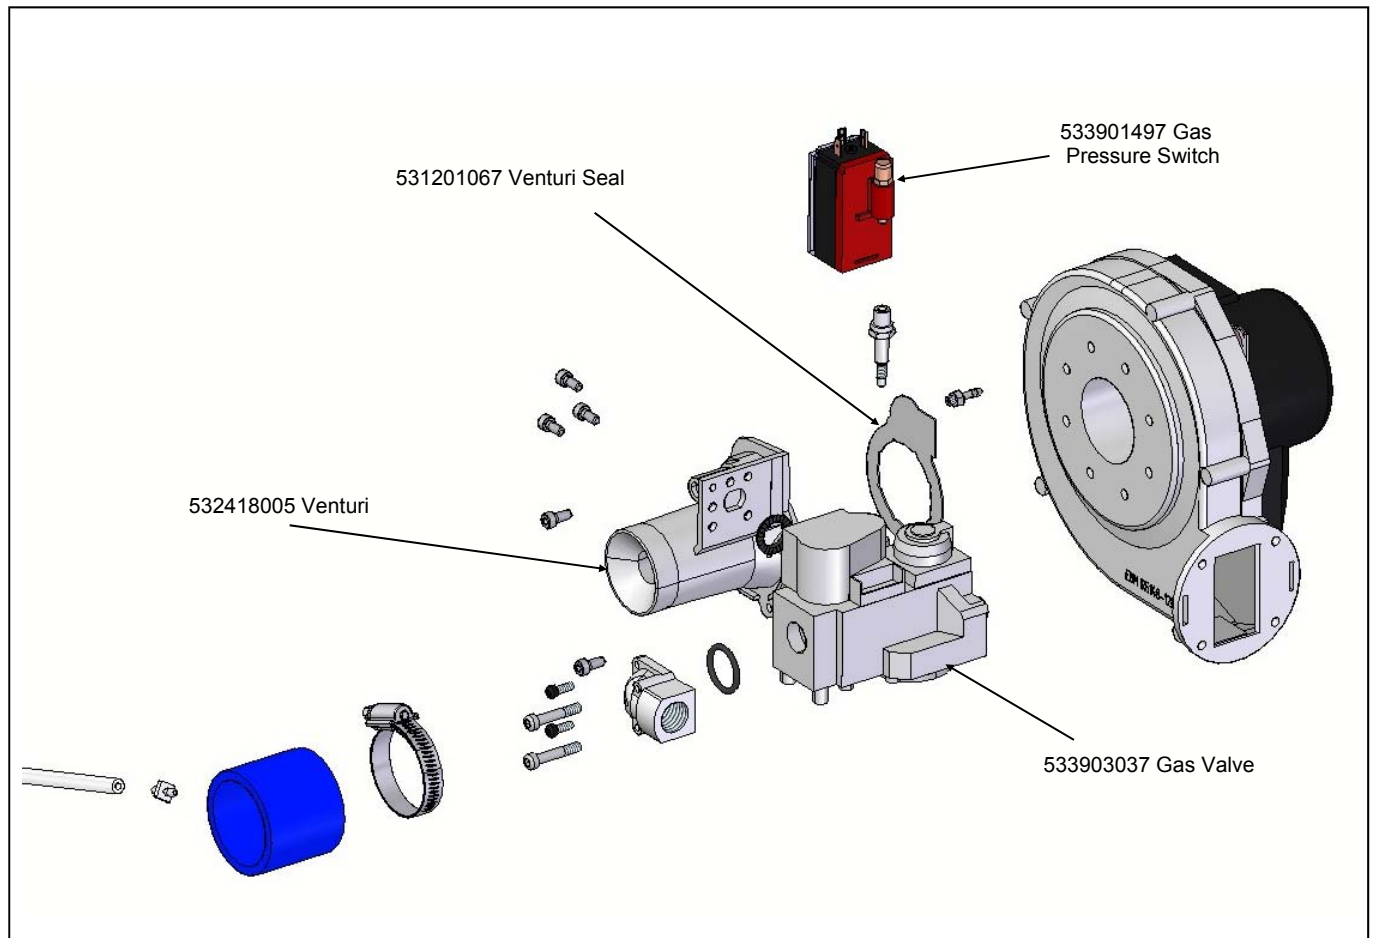

Figure 11.2 - Gas Valve Assembly Models PV70c
I) For model PV70c/95c/110c (Refer to Figures 11.2.& 11.3 for parts assembled between the gas valve & fan)